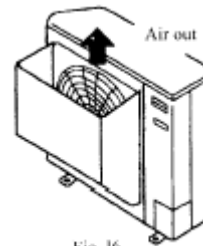

Fig. 16
2. If it is hard to find a space of 50cm min. between the air outlet and block near it, or if the air outlet is facing the road and may blow hot air to passers-by, please install an air guide to let the air comes out upwards. (See Fig. 16)